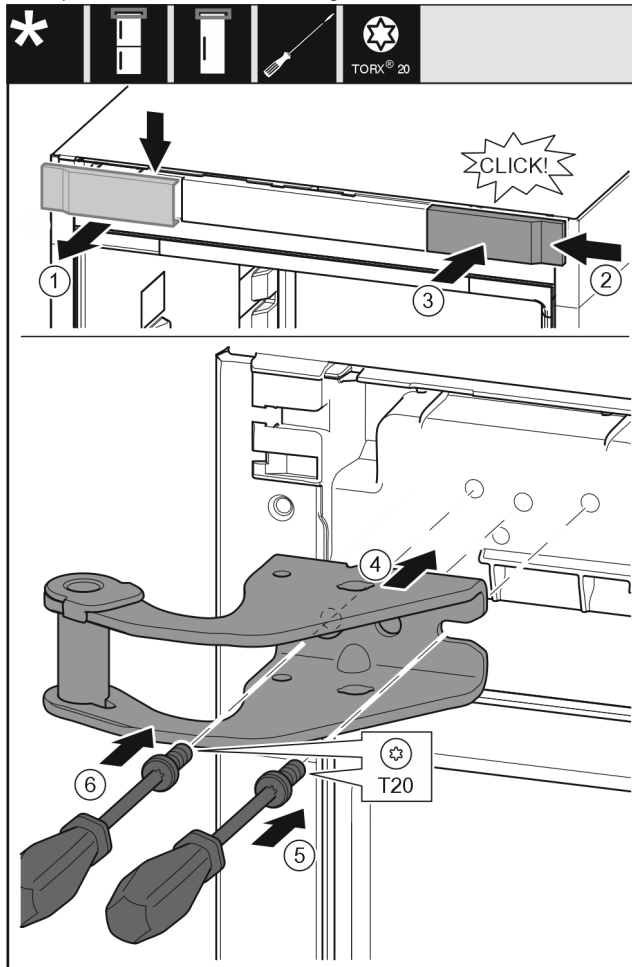

Fig. 7
- ▶ Take off the cover from above to the front. Fig. 7 (1)
- ▶ Rotate the cover 180° and clip onto the other side from the right. Fig. 7 (2)
- ▶ Latch the cover into place. Fig. 7 (3)
- ▶ Position the upper bearing bracket. Fig. 7 (4)
- ▶ Insert the screw with a T20 screwdriver and tighten it. Fig. 7 (5)
- ▶ Insert the screw with a T20 screwdriver and tighten it. Fig. 7 (6)